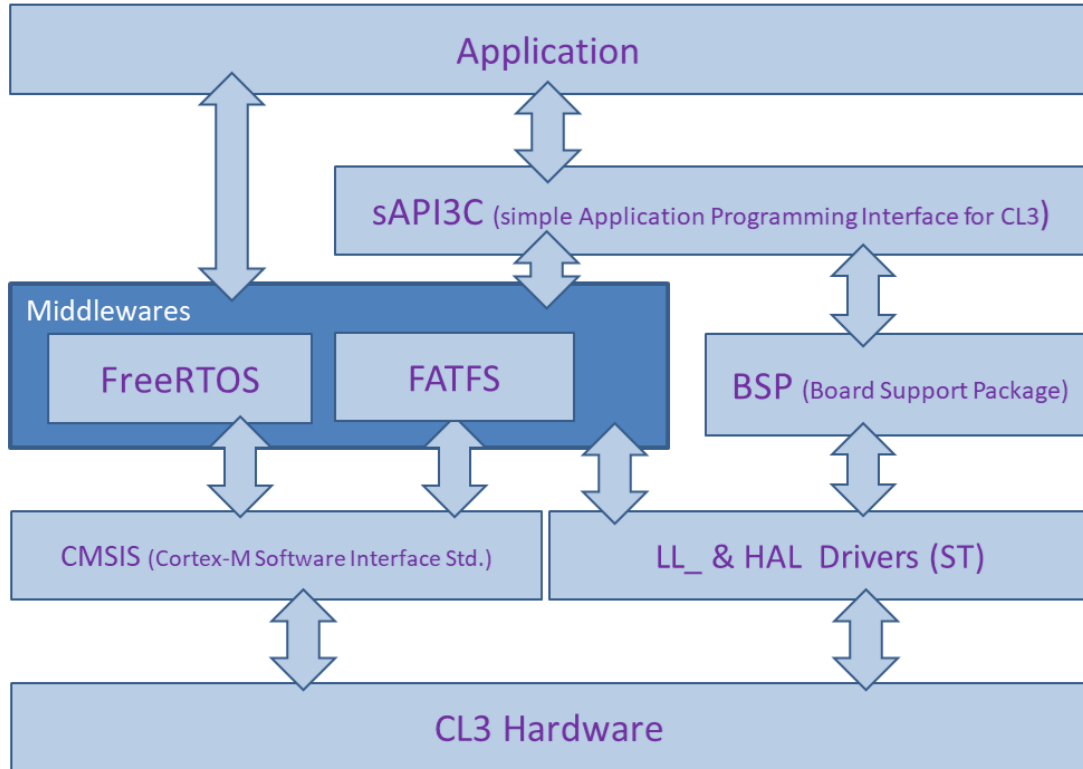
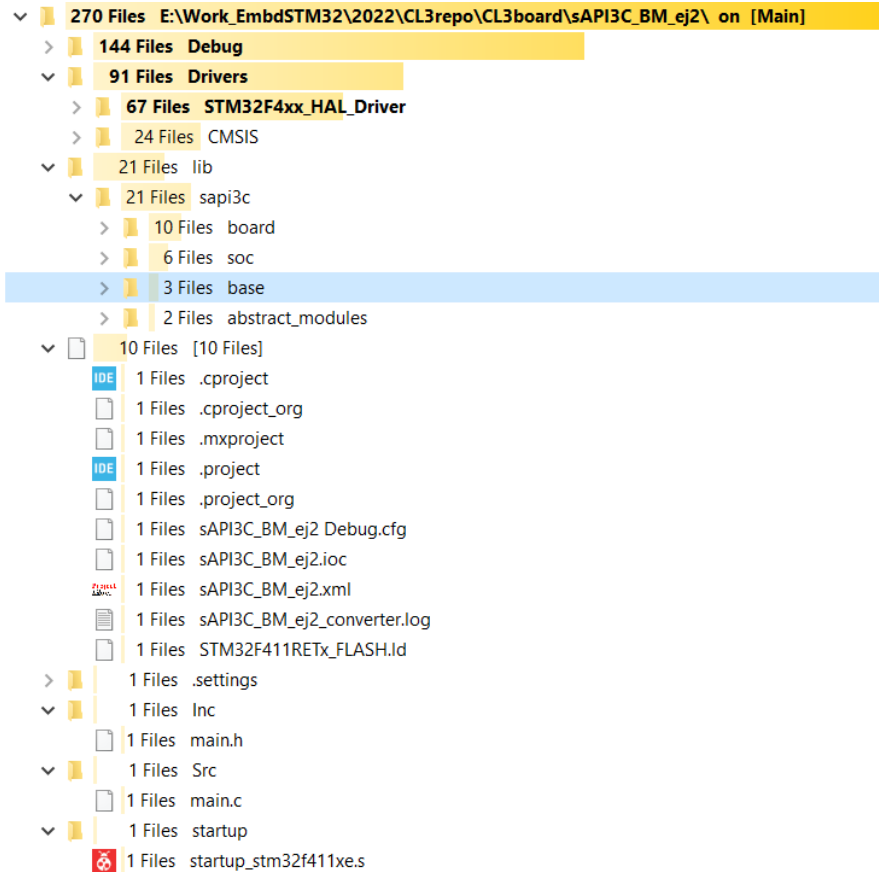

Figure 4 – Programming model layers for CL3 including sAPI-3C
Figure 12 – Example 2 directory structure
The complexity of the ARM M4/F microcontroller core (licensed by ST and other vendors) and its peripherals (vendor-specific) requires a series of firmware layers to deploy embedded applications. A generic distribution of these layers for the CL3 boards is shown in Figure 4. The upper application layer is user-defined and the intermediate layer called sAPI-3C -inspired in the original sAPI (*simplified Application Program Interface*, by E. Pernia [ref09] written for the CIAA project [ref10]) - provides a number of modules which solve many typical requirements of embedded applications. In the lower levels, directly on top of the hardware are the standard CMSIS layers produced by ARM, and some of the *Low Level* (LL_) driver libraries produced by ST for the STM32 series of microcontrollers. Some of the more complex modules (SDIO, USB) require higher level (HAL_ for *Hardware Abstraction Layer*) libraries also produced and continuously updated by ST. The middle level contains open-source intermediate level packages (*middleware*) from third-party sources. In Figure 4 these are FreeRTOS [ref10] and FATFS [11] which can be used on many different platforms. At the same level, the BSP (Board Support Package) contains specific peripheral initialization required by the board with functions such as internal clock configuration (*SystemClockConfig()*), and is run on startup for all applications.
In disk space, the sAPI3C_BM_ej2 example has the layered structure and components which were mentioned in section 2, Figures 4 and 5, shown in Figure 12. It is not recommended to modify or edit these files outside the Eclipse IDE.